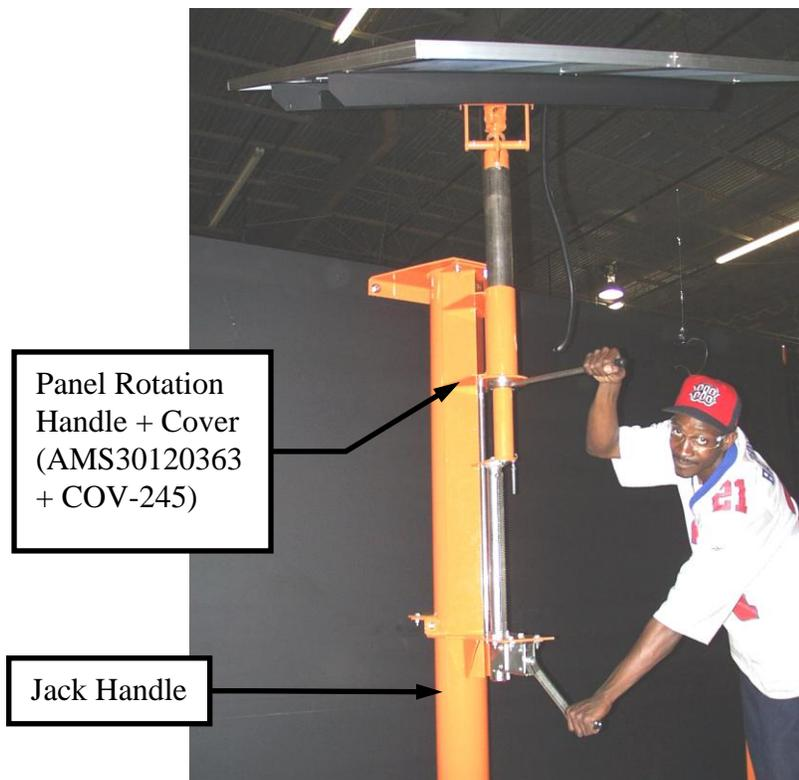
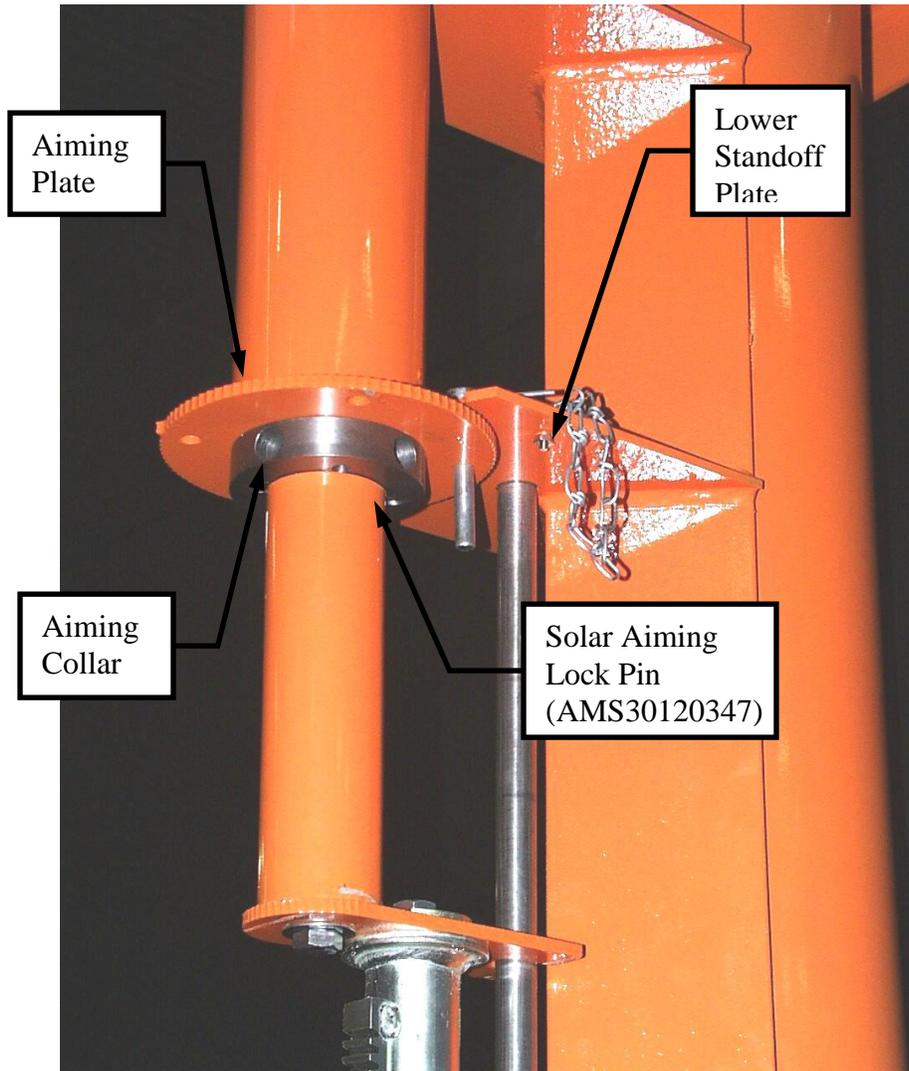

Figure 3. – Raised Position
Figure 4. – AimStar® components
4. Insert Solar Lock Pin in any hole in Lower Standoff Plate (see Figure 4).
2. Insert Panel Rotation Handle into any of four horizontal holes in Aiming Collar (see Figure 3 & Figure 4).
4. Raise Solar Panels until Aiming Plate is almost contacting Lower Standoff Plate (see Figure 4).